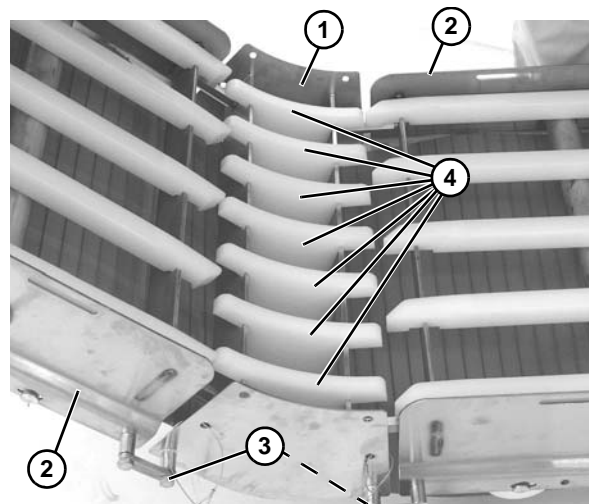

Figure 14
- Attach lower knuckle (Figure 14, item 1) to frame (Figure 14, item 2) with hex rods and bolts (Figure 14, item 3).
- Install wear strips (Figure 14, item 4).